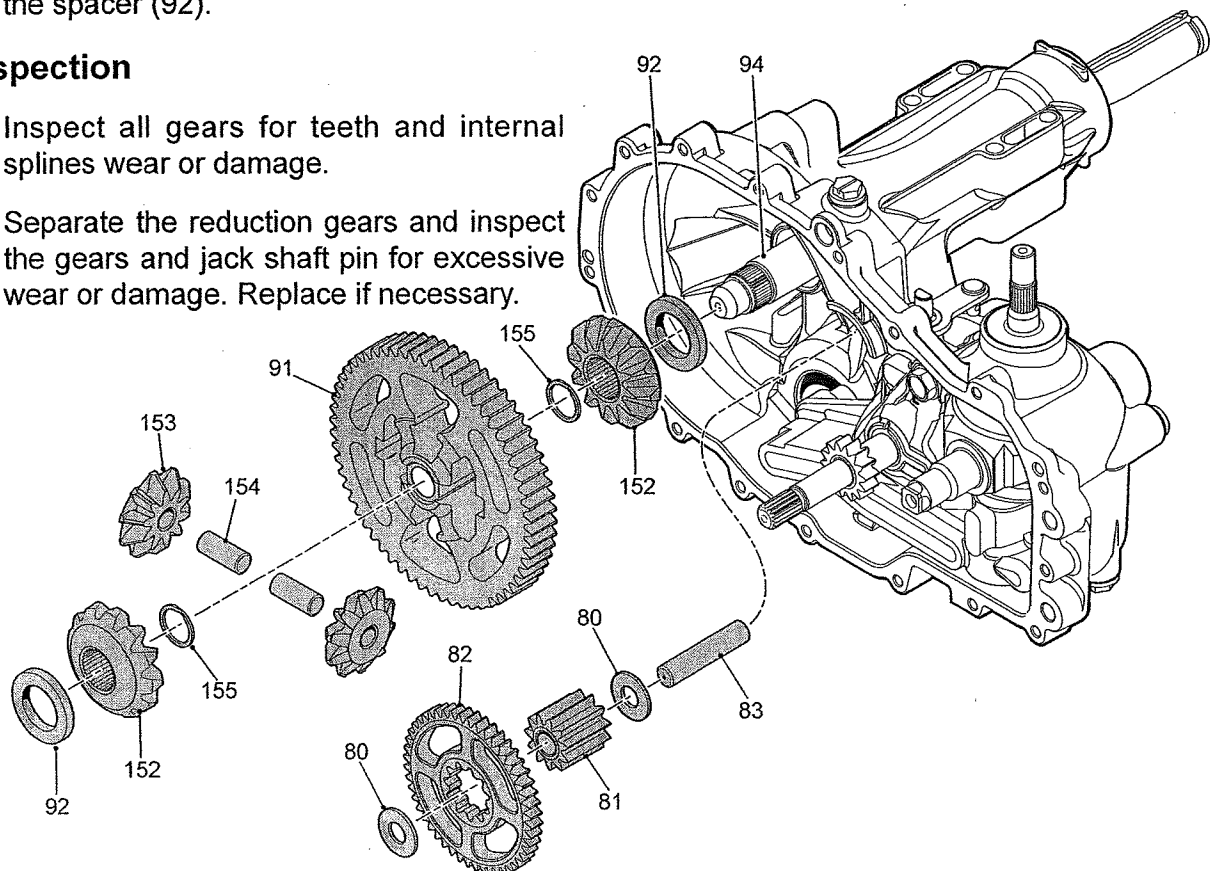

Figure 14, Bull, Reduction and Pinion Gear
Refer to Figure 14
1. Mark the orientation of the charge pump cover relative to the main housing, prior to removal. Refer to figure 14.
2. Remove the hex head screws (134), charge pump cover, gerotor assembly, and the O-ring (132). Remove the connecting tubes (130) at this point – *only if the center section will be removed*. A pick type tool can be used to remove the connection tubes.